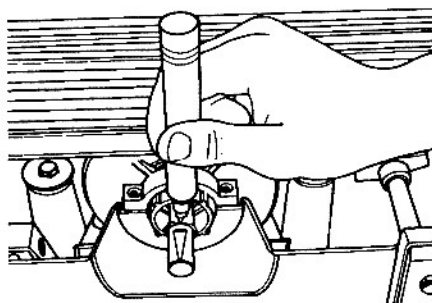

Fig. 43
53. Use a permanent marker to mark where the flat on the spindle is located, as demonstrated in Fig. 43.